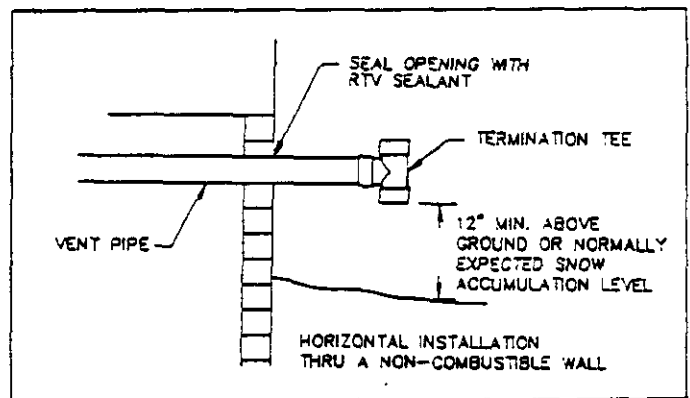

Figure 5
- a. When penetrating a non-combustible wall, make the hole just large enough for vent pipe. Use approved sealant material to seal vent pipe to the non-combustible wall. See Figure 5.